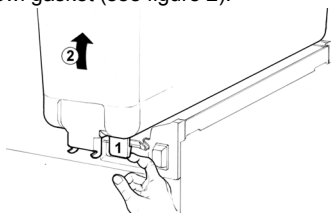

figure 2
- 2 Remove the empty bowl by lifting pulling lever (1) and **its front side (faucet side)** up and off bowl gasket (see figure 2).